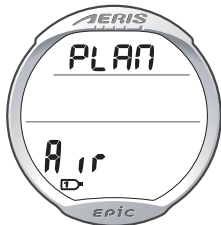

Fig. 68 - PLAN MODE
**PLAN MODE LEAD-IN** information includes (Fig. 68):